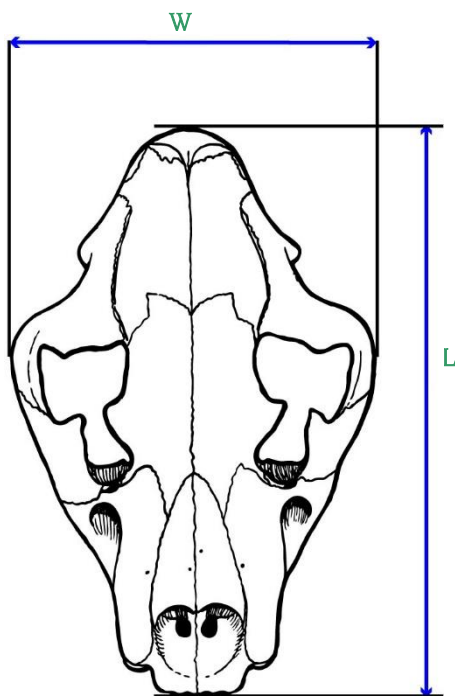

Figure 1
1. Length. Establish the outer limits of the length of the skull. Measure with a caliper along the skull's lengthwise axis. Measure the distance between the points of the caliper. (Figures 1 and 2, L)
2. Width. Using a caliper, determine the width of the skull at a 90-degree angle to the skull's axis. Measure the distance between the points of the caliper. (Figure 1, W)